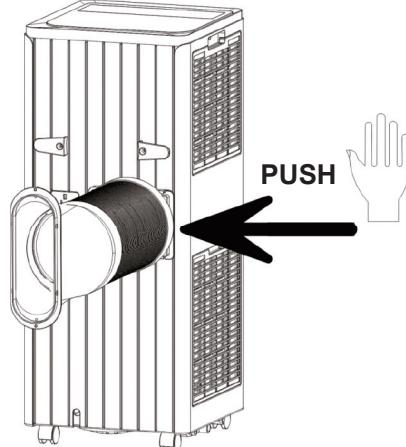

Figure 1
#### 1.1 Install the heat pipe assembly (as shown in Fig.1)
2) insert the heat pipe assembly (the end of the exhaust joint) into the back panel vent slot (push to the left) and complete the assembly (as shown in figure 1).